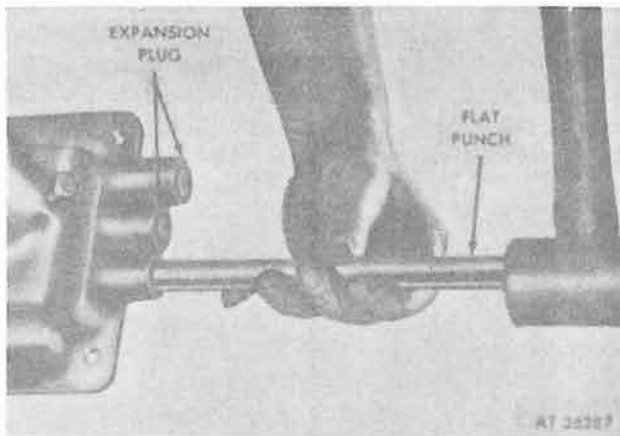

Figure 8-109. Installing housing expansion plugs.
n. Coat new expansion plugs with sealer (5330-252-3391), and install with flat-face punch (fig. 8-109).